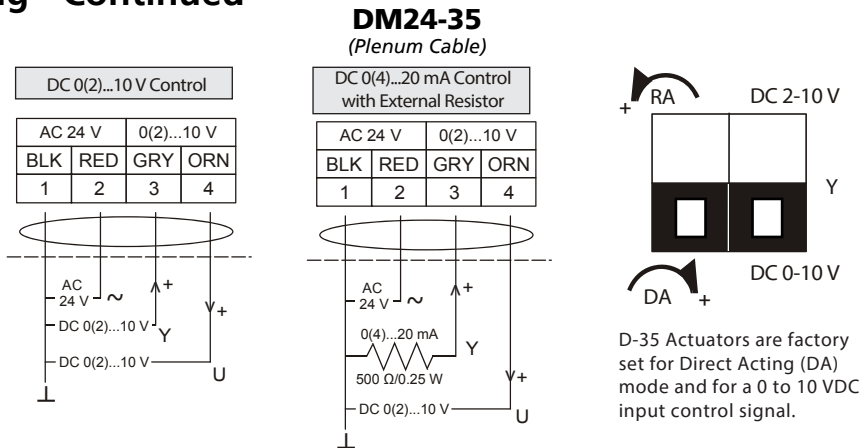

**Figure 5: Positioning the Actuator**
6. Be certain that the actuator is in the desired mounting position parallel to the mounting surface, as illustrated in Figure 5.